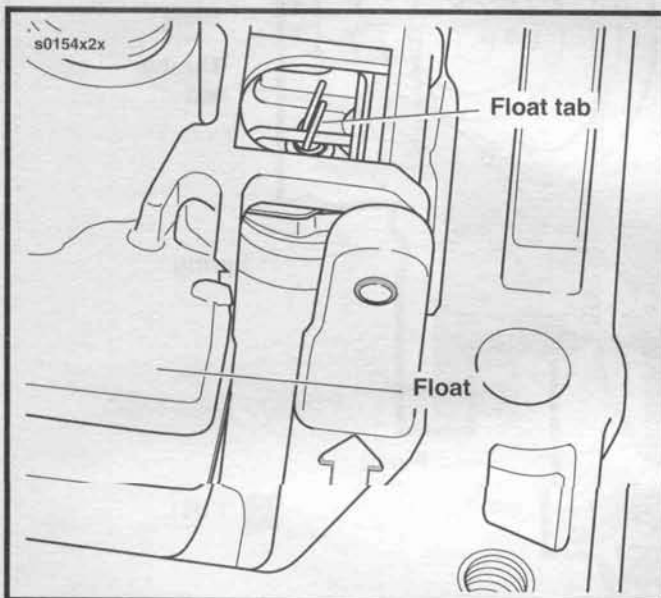

Figure 4-9. Carburetor Float
5. See Figure 4-9. If measurement is not within 0.413-0.453 in. (10.49-11.51 mm), carefully bend float tab to position float at proper level.